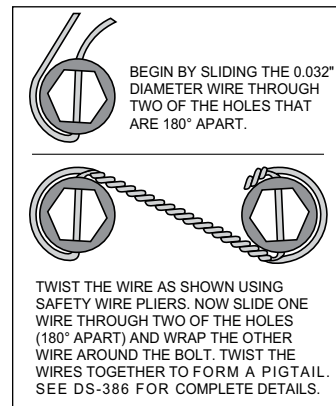

Figure 2. Safety Wire Diagram
- Safety wire bolts (6) using standard 0.032 inch diameter stainless steel safety wire as shown in Figure 2. Please refer to Wilwood's data sheet DS-386 (available at [www.wilwood.com/Pdf/DataSheets/ds386.pdf](http://www.wilwood.com/Pdf/DataSheets/ds386.pdf)) for complete safety wire installation instructions.